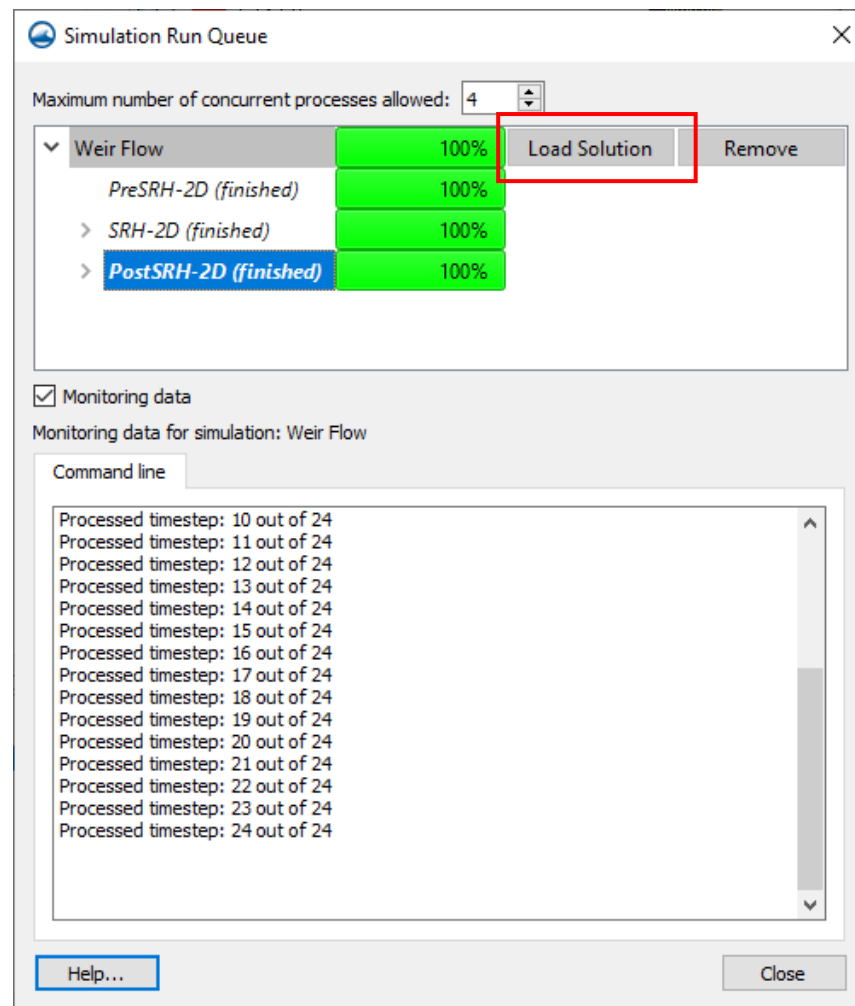

Figure 6 SMS Simulation Run Queue dialog
6. When the simulation is complete, click **Load Solution**, as shown in Figure 6. The solution datasets will now be listed in the Project Explorer under the folder “ Weir Flow”.